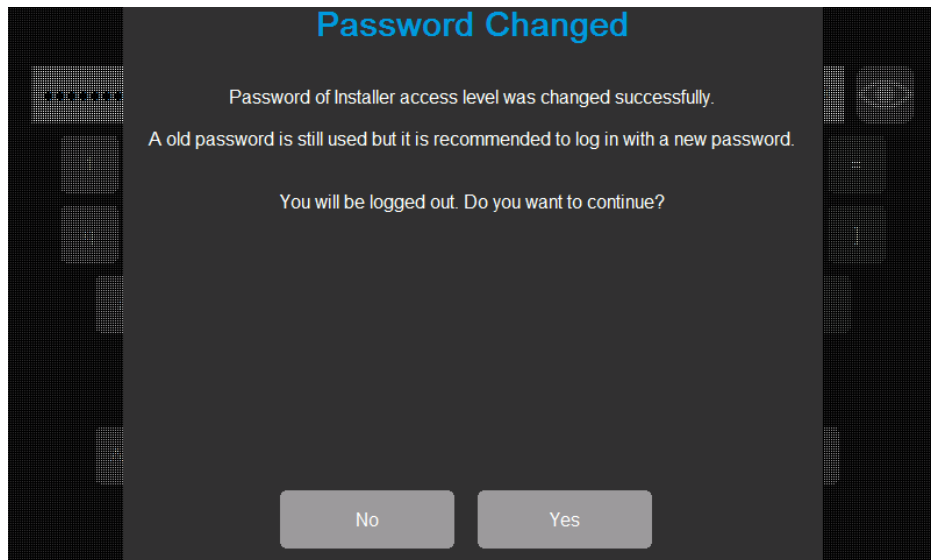

Fig. 81: Installer Password Changed confirmation dialog box.
7. When the Installer password is changed, the Password Changed dialog box opens. Refer to Fig. 81.